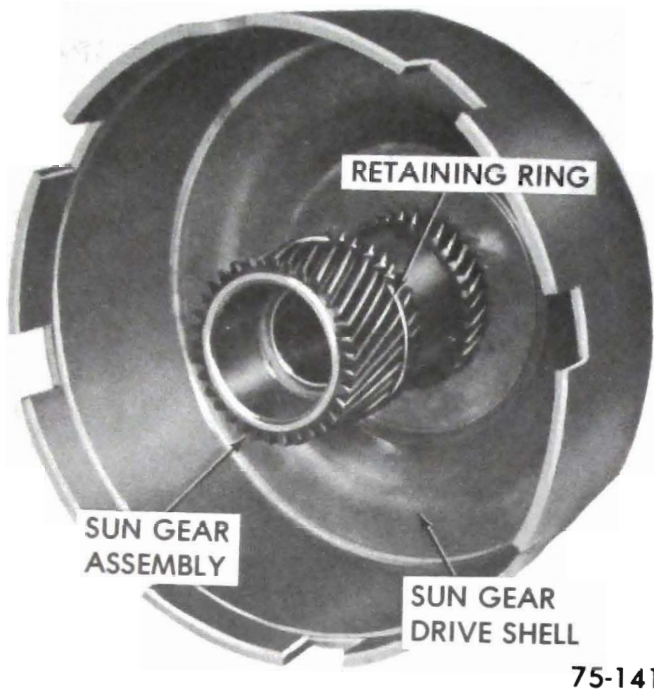

Figure 75-202
3. Remove front retaining ring from sun gear. See Figure 75-202.
1. Install sun gear to drive shell front retaining ring, and install into drive shell. See Figure 75-202. Use a new ring and do not overstress when installing.